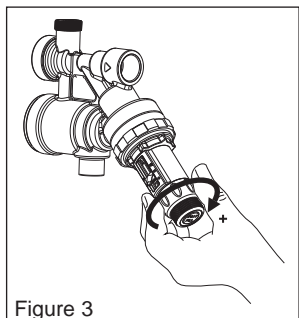

Figure 3
4. To reduce the system pressure setting turn the adjusting knob counter clockwise to the desired set point (see figure 3).